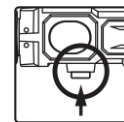

Fig. 3
- When catalyst mesh inside the window begins to glow orange, press the lock button (fig. 3) and then release the gas open / ignition lever. This will keep the unit in the ON position. If blue flame is visible in window, turn off the gas open / ignition lever, and repeat the ignition process.